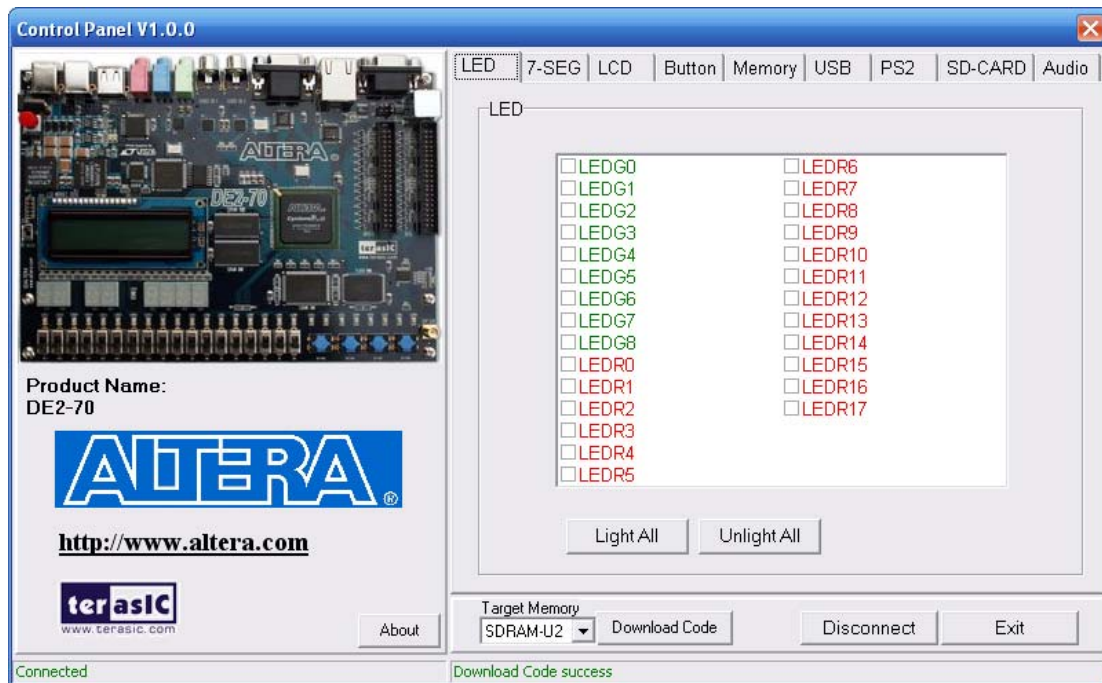

Figure 3.1. The DE2-70 Control Panel.
4. Start the executable *DE2_70_control_panel.exe* on the host computer. The Control Panel user interface shown in Figure 3.1 will appear.